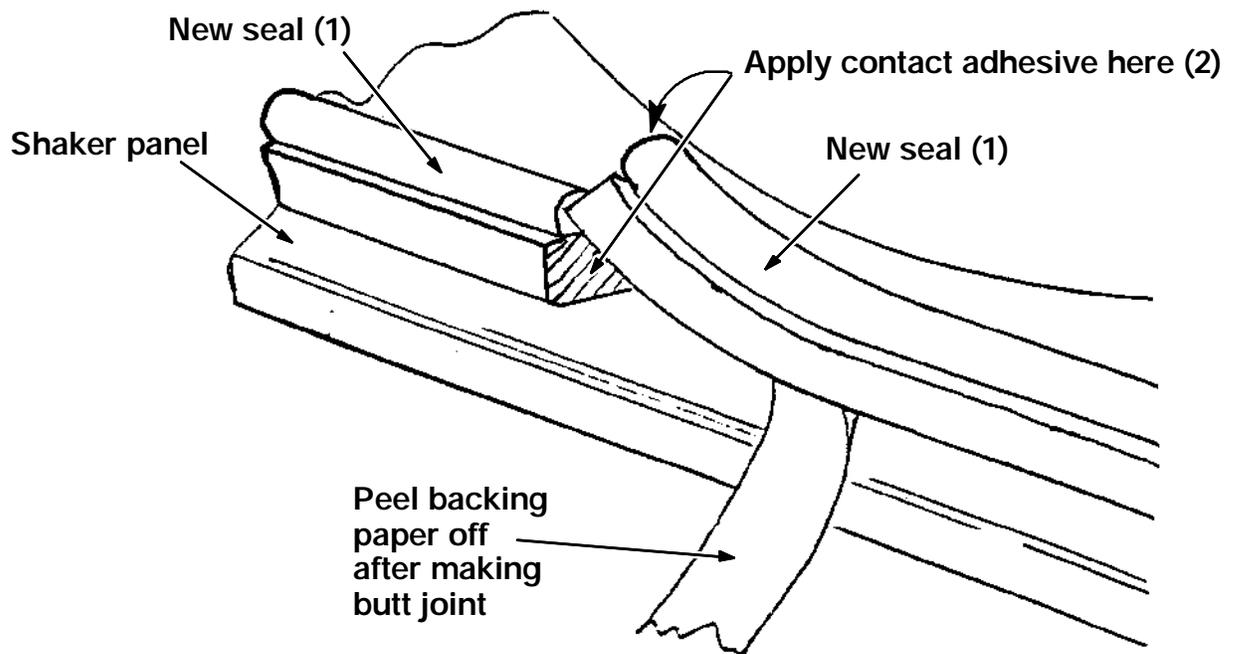

FIG. 2 - Gluing Butt Splice
4. Apply contact adhesive to both ends of the seal and allow to cure for about ten minutes before joining. (Refer to Fig. 2)
5. Butt the seal together, remove the remaining backing paper, press the seal into place. (Refer to Fig. 2)